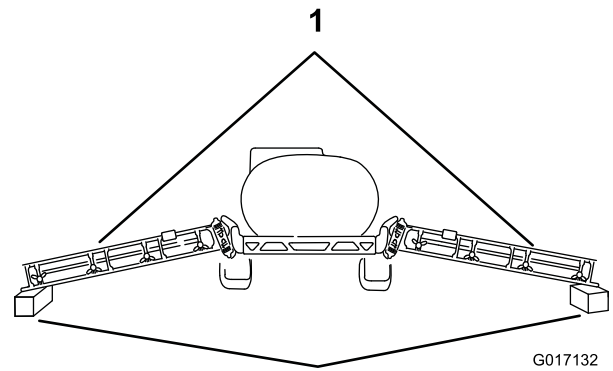

Figure 5
3. Carefully lower the booms onto wooden blocks about 4 inches (10 cm) high (Figure 5).